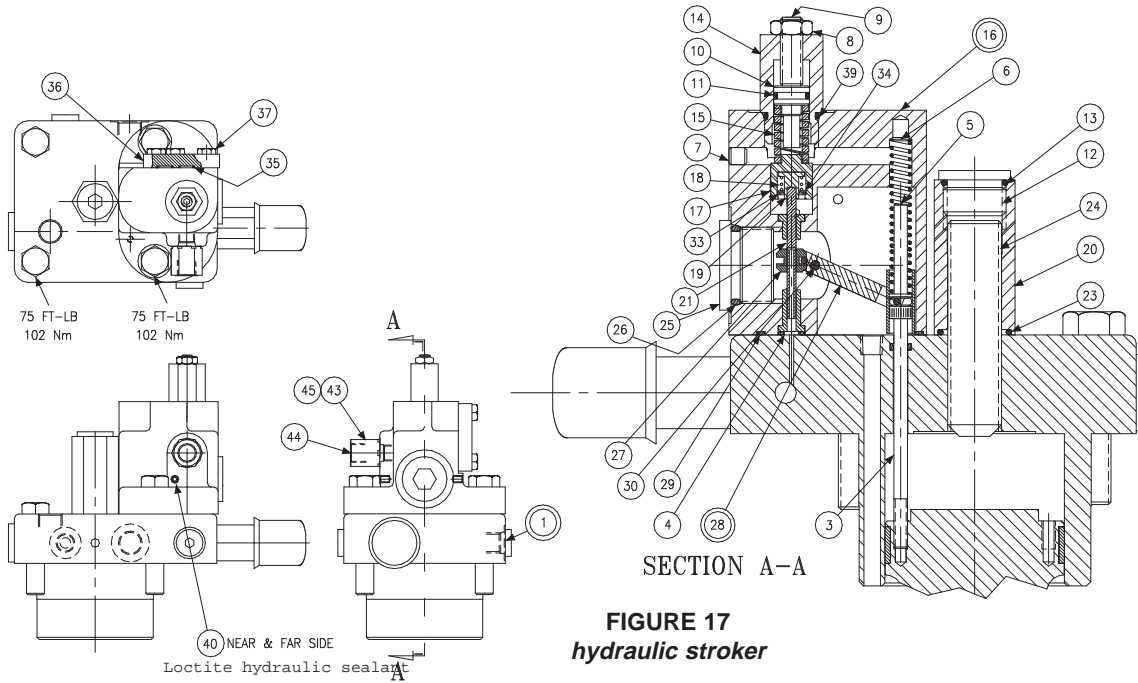

FIGURE 17
| 1 | #Hydraulic Stroker (Fig. 17) | S22-16003 | S22-16004 | 1 | 1 | 1 | 1 |
PARTS LIST FOR FIG. 17
1. See figure 17. Remove 2 screws holding body (16) to cap assembly (1).
2. Remove all parts from body (16) except pin (30) and arm assembly (28). It is not necessary to remove these parts unless broken or worn. Examine parts for wear or damage.
3. Remove screw (3). Examine head for excessive wear, and body for smooth sealing surface with O-ring.
2. Install spool (4) into bore as shown. Install spring (8) over end of spool.
3. Install O-ring (13) on spring retainer (12). Install retainer (12), screw (14), and nut (15) in plug (3).
4. Install O-rings (7) and (16) on plug (3). Install plugs (3) and (9) in body (1). Install orifice (20) and plugs (10). Torque plugs. Install O-ring (5) in cap.
5. Turn screw (14) in until spring retainer (12) contacts spring (8). Turn an additional 1-1/2 turns and lock in position.
8. See figure 17. Apply Loctite 242 on threads of screw (3), lubricate the shank, thread through the cap into the control piston, and torque to 5 lb.·ft., 6,78 Nm.
9. Install minimum stop screw (24) and turn clockwise to stroke pump to full volume. Measure height from control cap to top of screw (3). With control piston at full stroke, dimension must be .45 +/- .03 in., 11,4 +/- 0,76 mm. Back out minimum stop screw (24) till there is no contact with control piston.
10. Press dowel (30) into body (16), through the link (28), to 1/4", 6,35 mm below surface. Apply Loctite hydraulic sealant to threads of screws (40) and install over dowel (30).
11. Press spool (21) into retainer (19). Caution: do not use excessive force. Place spool/retainer assembly into spool (17) with spring (18) and washer (34). Secure with retaining ring (33).
12. While sleeve (27) is engaged into dowel on link (28), slide above spool assembly into bore of body (16), and through sleeve (27). Spool (21) must move freely and easily at all positions of the link (28).
13. Assemble all other components into body (16) per above drawing. Torque plug (12).
14. While spring retainer is engaging clevis pin (5) under dowel of link (28), slide the other opening of spring retainer over the top of the screw (3). Attach body assembly (16) to cap (1) with two screws and torque to 75 lb.·ft., 102 Nm.